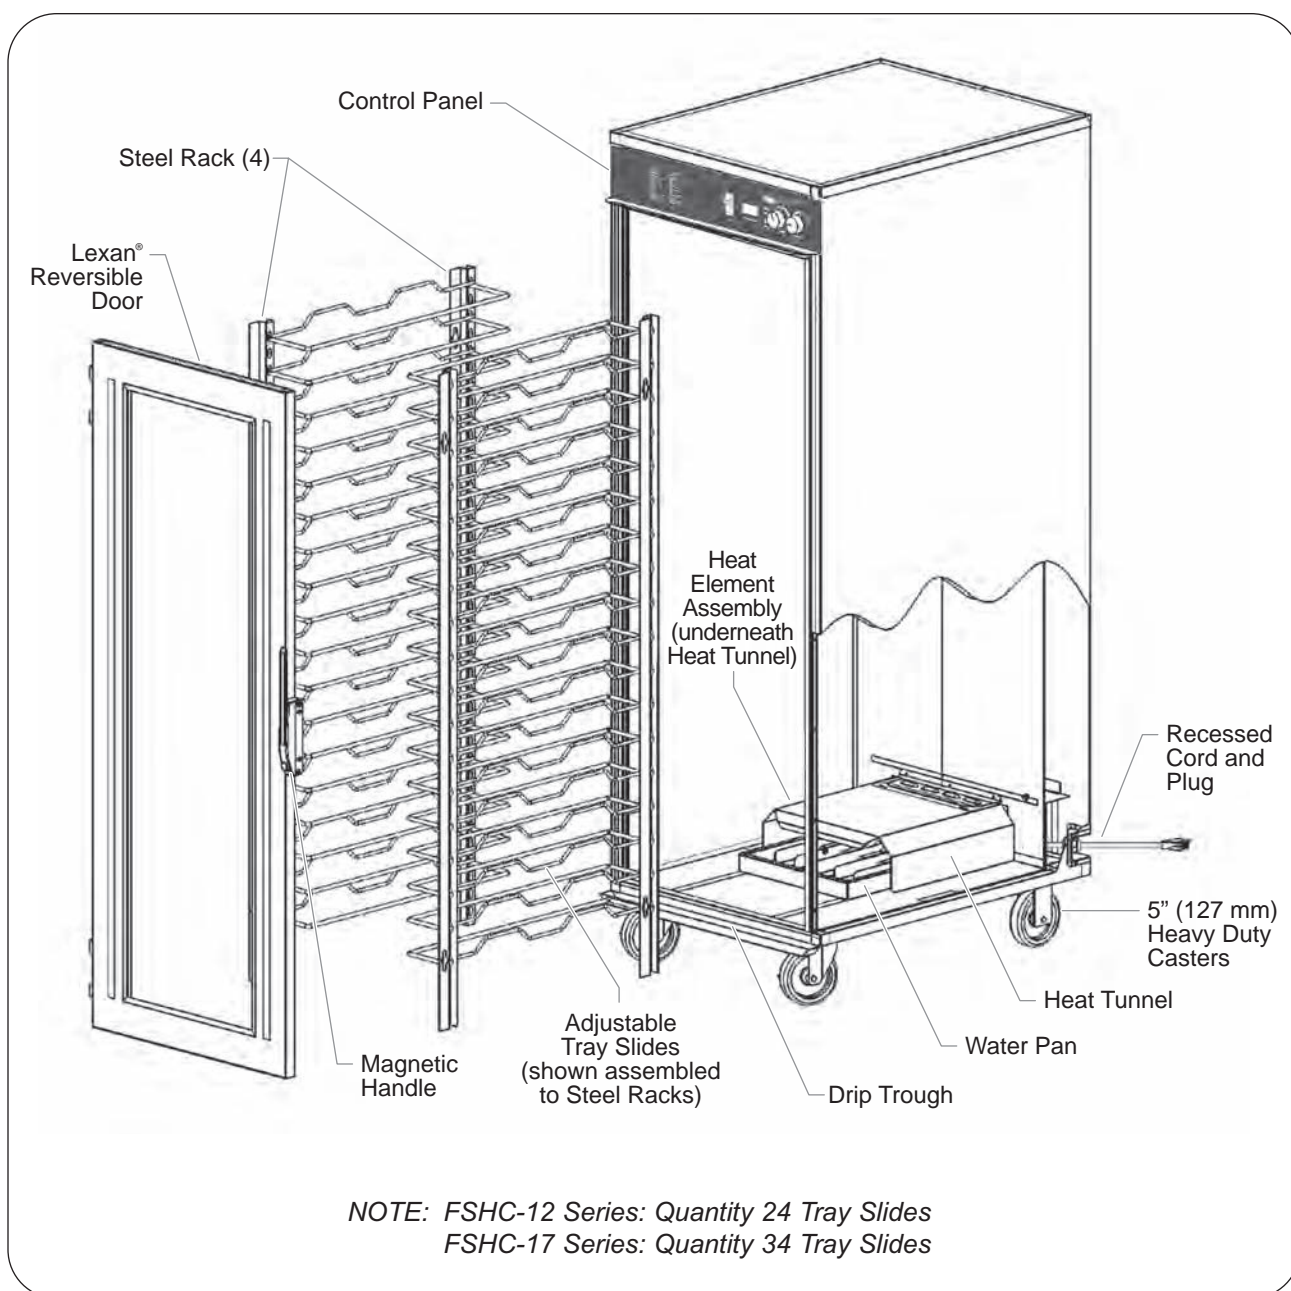

Figure 6. Cabinet Components Exploded View
4. Unpack the adjustable tray slides from the carton and install them to the steel racks as shown in Figure 6.
**NOTE:** Operating at a high humidity setting for extended periods of time may require the drip trough(s) to be emptied periodically (located at the bottom of the door, see Figure 6.).